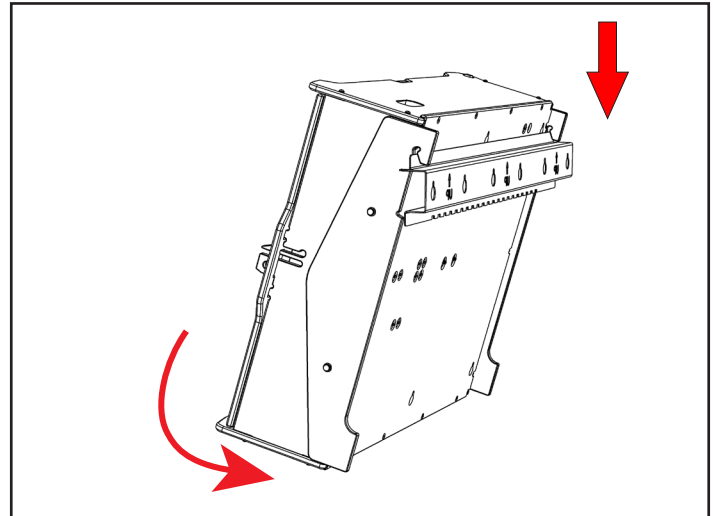

Fig. 4.1: Mounting Cabinet to rail (shown with PBX-RAIL-M)
2. Attach the Pump Cabinet to the rail by hooking the rail supports to the top edge of the rail at a slight angle. [Figure 4.1].